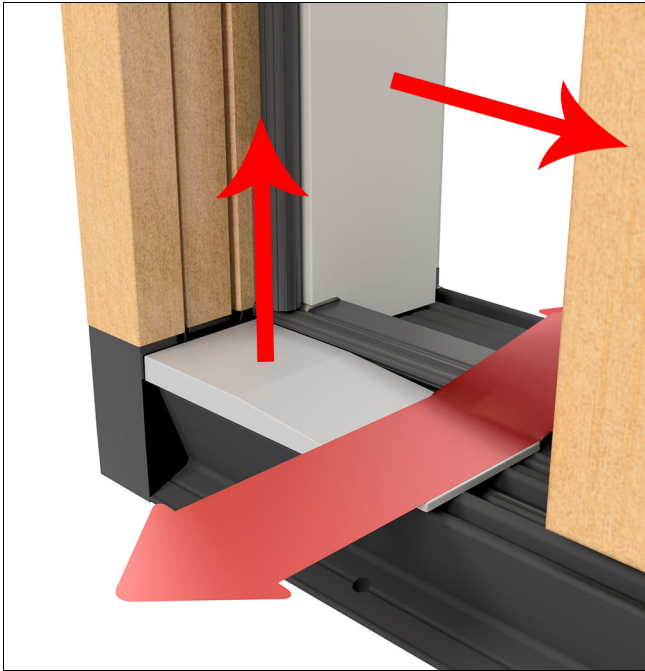

Figure 10 Operator Panel Locking Stile Shipping Block
4. Open the panel and remove the sill shipping block at the locking stile, that holds the operator panel(s) in place. See Figure 10